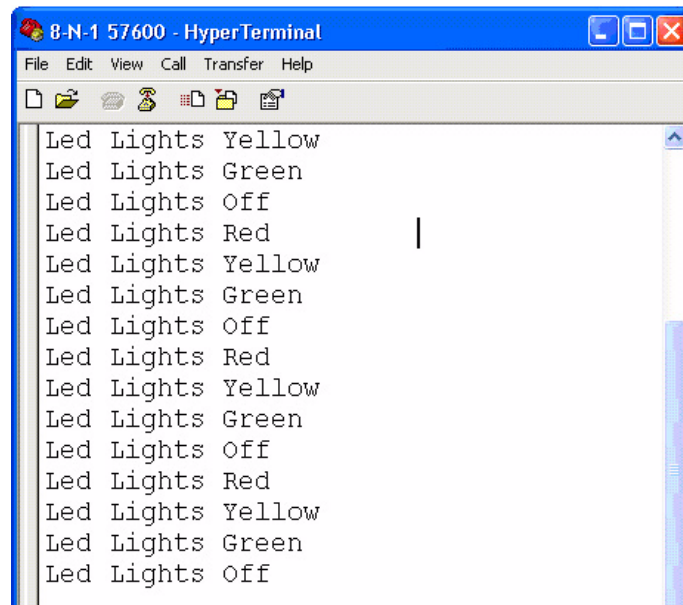

Figure 10. Console Output Using Hyperterminal (Windows XP)
11. After the application has started, console output should be visible in the terminal emulation program, as shown in Figures 10 and 11.